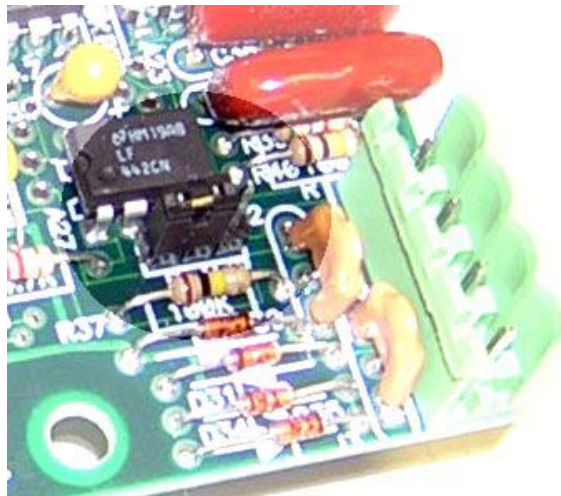

Figure 8-2. Jumper setting:
2. If the control is connected with a Secondary Rogowski Coil, the sensor selection jumper should be put on the two pins on the left, as shown in Figure 8-2.